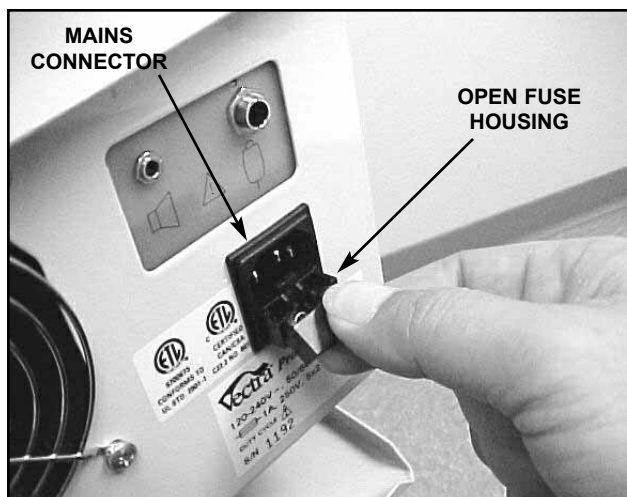

FIGURE 6.1
- B. Slide Fuse Housing open from the Mains Connector on the unit. See Figure 6.1.